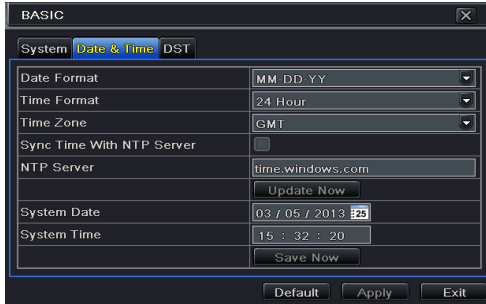

Fig 4-4 Basic Configuration-Date & Time
Step 1: Enter into Menu→Setup→Basic →Date & Time interface. Refer to Fig 4-4: